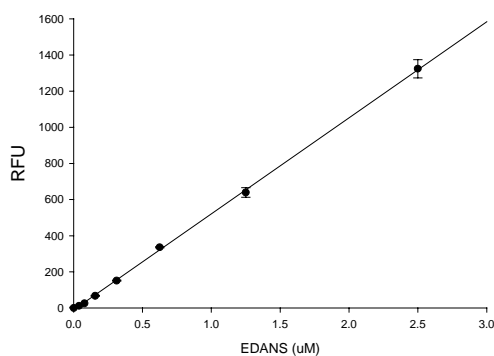

Figure 2. The EDANS reference standard calibration curve.
- Plot EDANS fluorescent reference standard as RFU (relative fluorescent unit) versus concentration as in **Figure 2**.